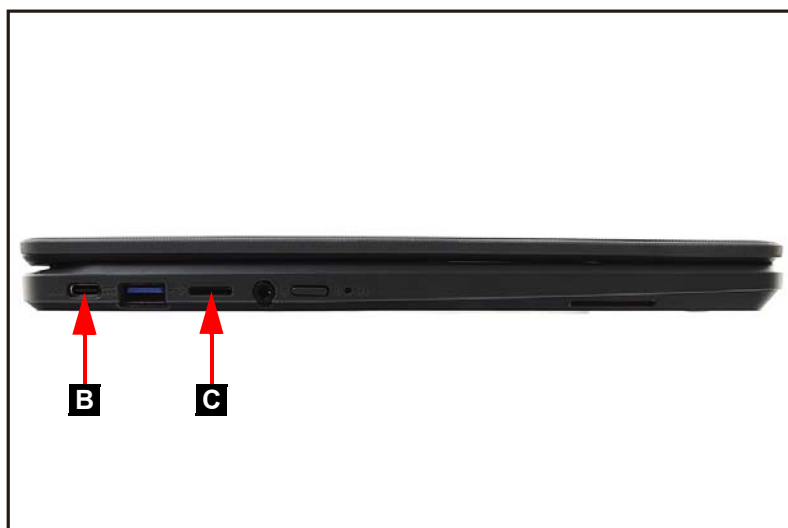

Figure 1-2. MicroSD Card Removal
2. Remove the power adapter from the USB Type-C port (A) as shown in Figure 1-1 or from the USB-C port (B) as shown in Figure 1-2.
4. Remove the microSD card from the microSD card slot (C) (Figure 1-2).